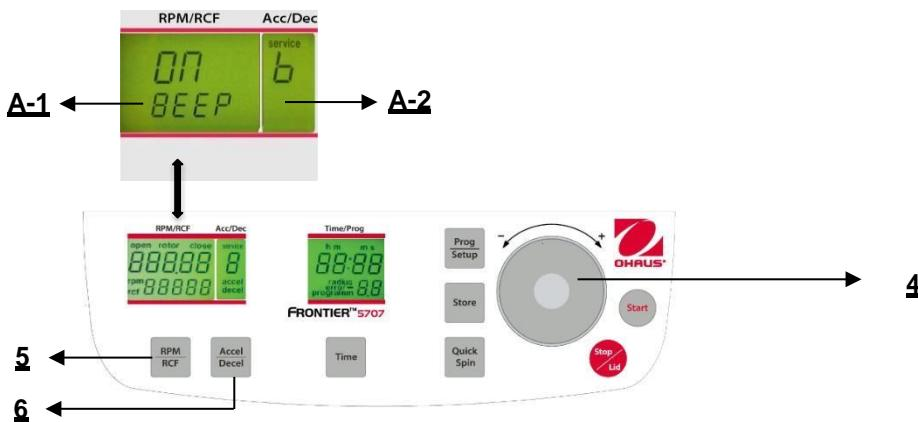

Figure. 32
Proceed as described under point 4.1.2 to enter this program mode and then press the key "Accel/Decel" (6). In the display "Acc/Dec" (A-2) the word "Service" flashes. Now select the letter "B". with the adjusting dial (4). As a result, in the display "RPM/RCF" (A-1), the word "ON/BEEP" appears. After pressing the key "RPM/RCF" (5), you can turn the keyboard sound (On) or (Off) with the adjusting dial (4). (See figure 32).